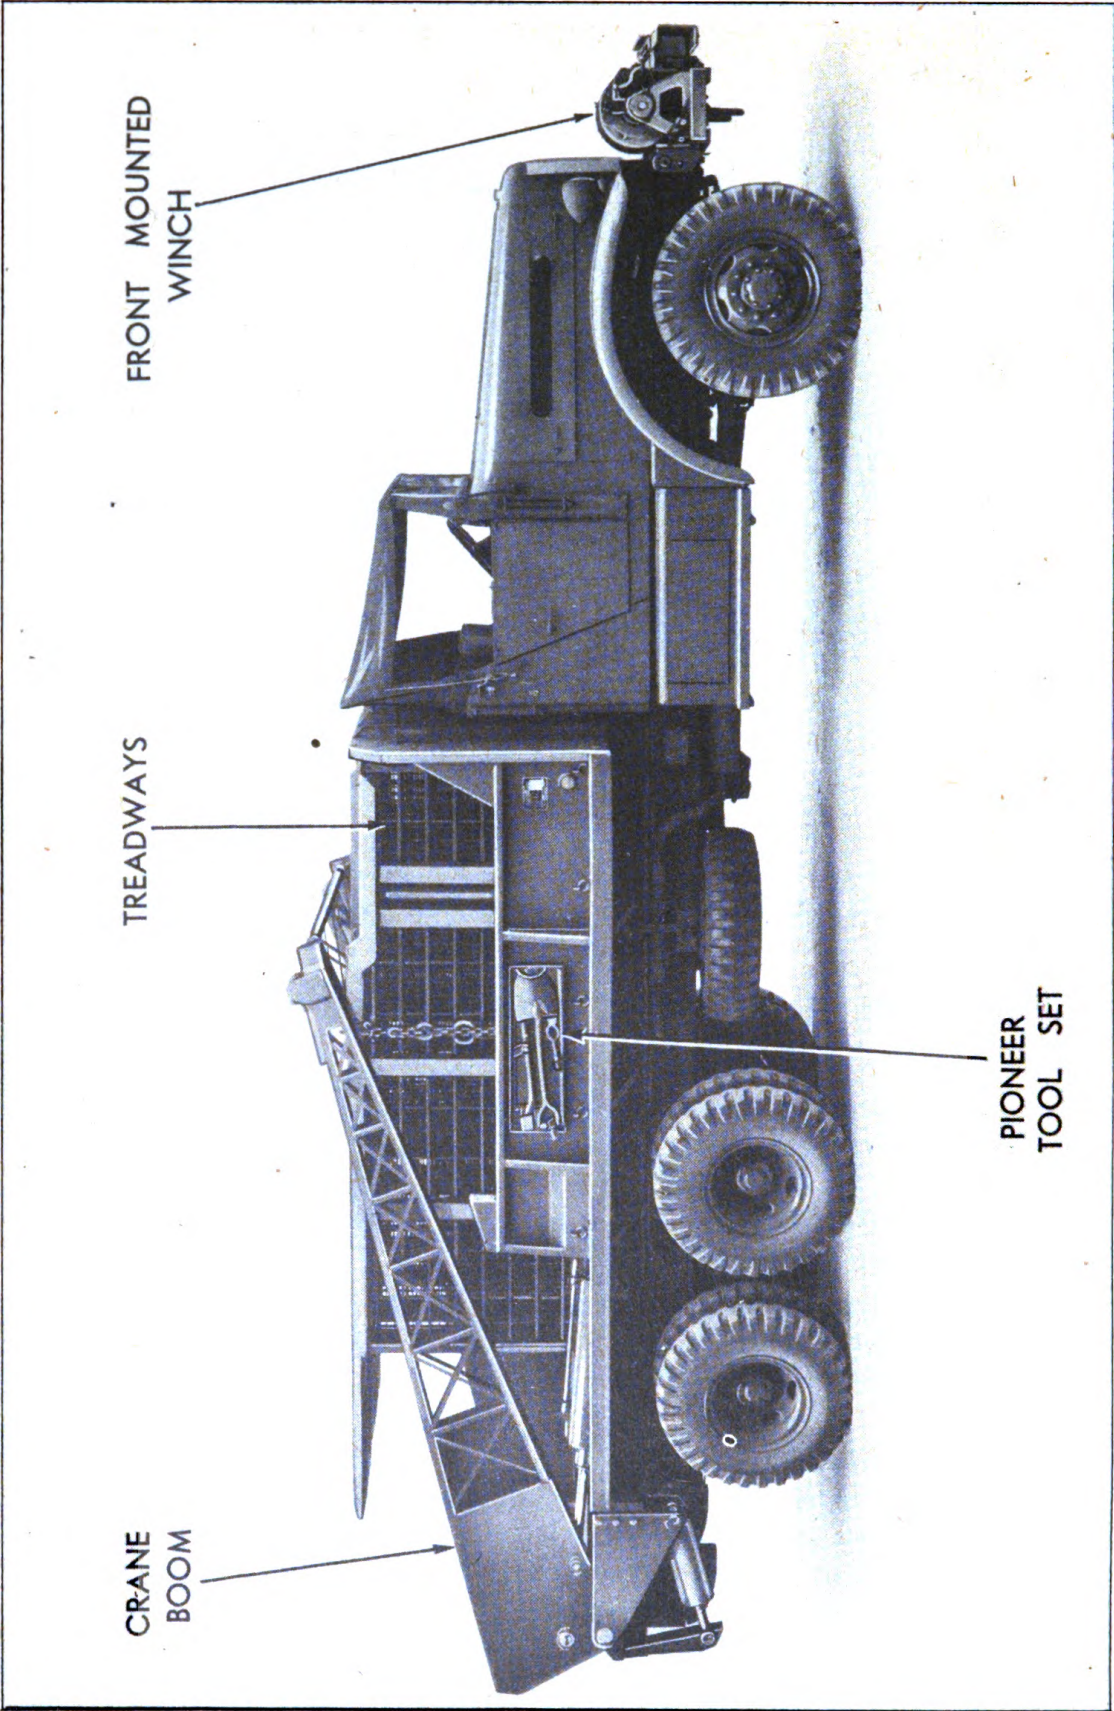

Figure 2. Side View of Hydraulic Bridge Erecting Crane
(1) The M-II-A Truck Body and Hydraulic Crane is designed to carry four steel treadways and their supporting pontons, or 24 ft. of the Steel Treadway Bridge. Each unit is provided with a hydraulically operated crane to unload and position the steel treadways.
(2) A typically loaded unit is shown in Figure 1 and a partially loaded unit in Figure 2. The rubber pontons may be loaded either to the front or to the rear of the truck. For quick unloading of treadways, it is suggested that the pontons be placed at the rear of the truck to facilitate unloading.
(8) A Pioneer tool set consisting of a shovel, pick mattock and axe are mounted on the side of the body, see Figure 2.
(9) Tire chains, hydraulic jack and tools are carried in the tool box mounted under the left side of the body.
(10) The body and crane unit is held to the chassis with special hold-down brackets. The Repair Section of this manual shows these brackets.